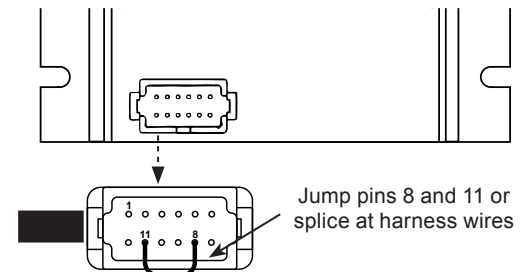

Figure 6: Reuse Existing FLD wire for IGN by Jumping Harness Sockets
- If replacing **Transtech** regulator: Remove regulator harness connector and jumper pins 8 and 11 (see Figure 6). Tape or cable tie jumper securely in place. Alternate method is to splice harness wires from pins 8 and 11 together.